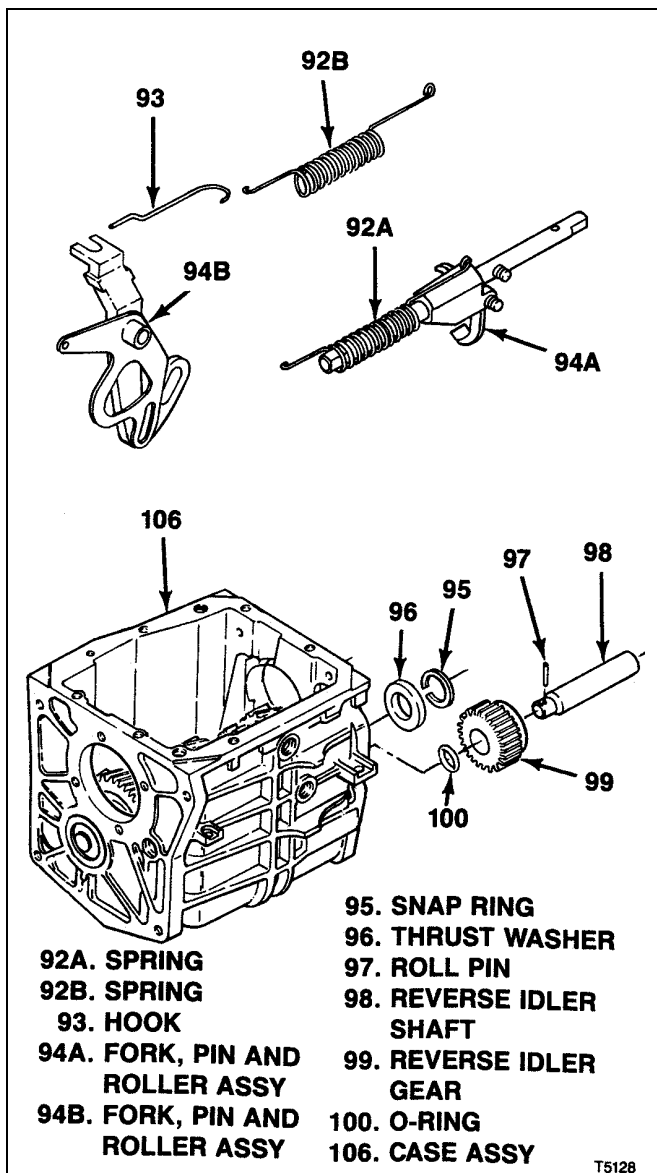
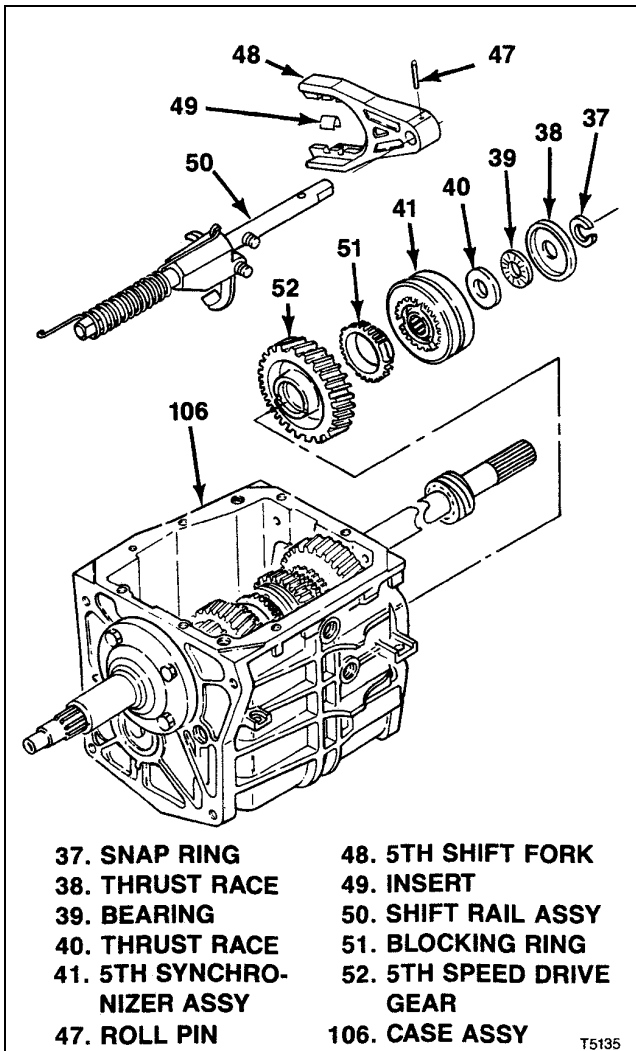

Figure 7-6. T5 STD Reverse Fork and Idler Gear
Figure 7-13. T5 STD 5th Gear, Shift Fork and Synchronizer
- b. Install thrust washer (104) on countershaft gear (105).
- c. Install countershaft gear (105), with thrust washer (104), through top opening of transmission case (106), rear end first. Extend rear end of countershaft gear through rear case opening enough to seat front end in bearing (103).
- d. Install spacer (102) and bearing (101) over end of countershaft gear (105) and into bore in transmission case (106).
**7-9. INSTALLATION OF T5 STD REVERSE FORK AND IDLER GEAR.** With assembly completed as described through paragraph 7-8, proceed as follows (see figure 7-6):
**7-15. INSTALLATION OF T5 STD 5TH GEAR , SHIFT FORK AND SYNCHRONIZER.** At rear of transmission case (106), install parts as follows (see figure 7-13):
- b. Attach 5th shift fork (48) to shift rail assembly (50) with roll pin (47). Install inserts (49) on 5th shift fork.
- c. Engage 5th shift fork (48) with previously assembled (paragraph 7-7) 5th synchronizer assembly (41) and install together in transmission noting the following:
1. Install 5th synchronizer assembly (41) over rear end of countershaft gear (105).
2. Guide shift rail assembly (50) through reverse fork, pin and roller assembly (95A or 94B, figure 7-6) and, when used, spring (92A, figure 7-6) previously installed.
On units with fork, pin and roller assembly (94B, figure 7-6), 5-R shift lever is permanently attached to the fork. In the following step, it is necessary to engage lever with roller on shift rail (50, figure 7-13) only.
- a. Work 5-R shift lever (36) into engagement with rollers on previously installed shift rail assembly (50, figure 7-13) and fork, pin and roller assembly (94A, figure 7-6).
- b. From outside transmission install pivot pin (34) through case and 5-R shift lever (36 or part of 94B, figure 7-6). Torque pin to 20 lb-ft (27Nm).
- c. Inside transmission, attach lever to pin with retaining ring (33).
- e. Using needle nose pliers, hook free end of previously installed spring (92A or 92B, figure 7-6) on pin in transmission case (106).